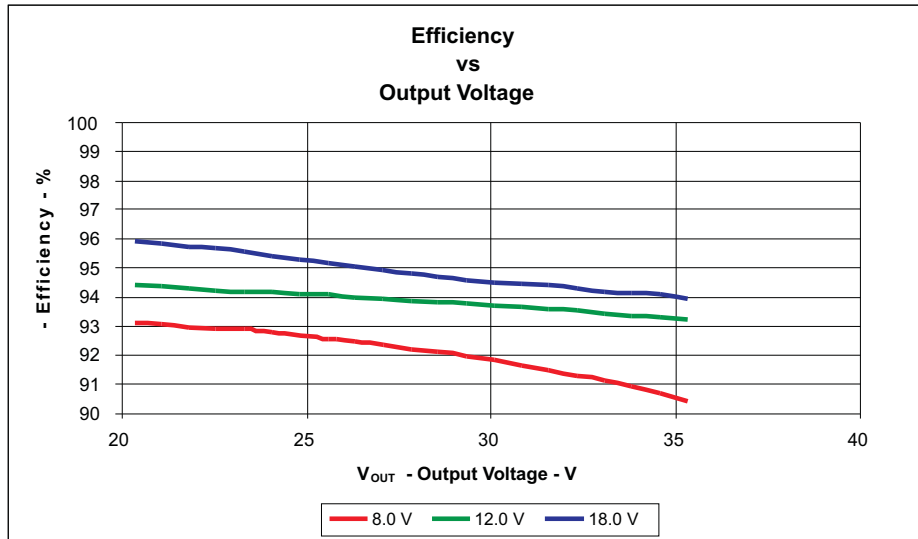
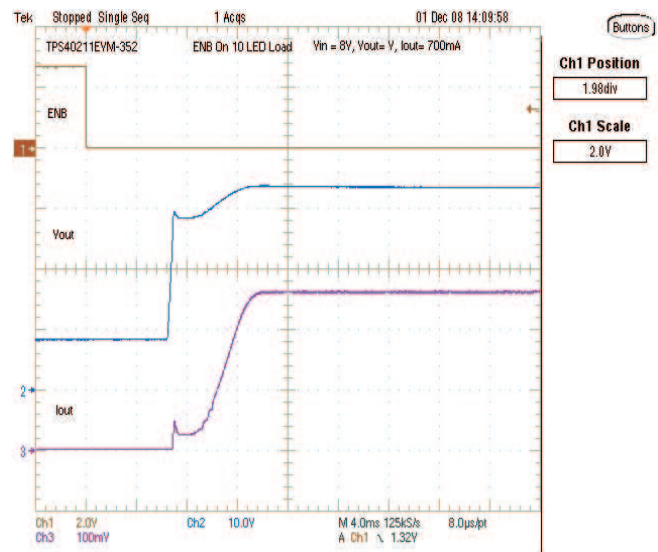

Figure 4. TPS40211EVM-352 Efficiency versus Output Voltage
Figure 10. TPS40211EVM-352 Enable ON Soft-Start
1. Connect 1-kHz to 1-MHz isolation transformer to TP4 and TP5 as show in Figure 4
2. Connect input signal amplitude measurement probe (Channel A) to TP4 as shown in Figure 4
3. Connect output signal amplitude measurement probe (Channel B) to TP5 as shown in Figure 4
4. Connect ground lead of Channel A and Channel B to TP3 and TP6 as shown in Figure 4
Figure 4 through Figure 10 present typical performance curves for the TPS40211EVM-352. Since actual performance data can be affected by measurement techniques and environmental variables, these curves are presented for reference and may differ from actual field measurements.